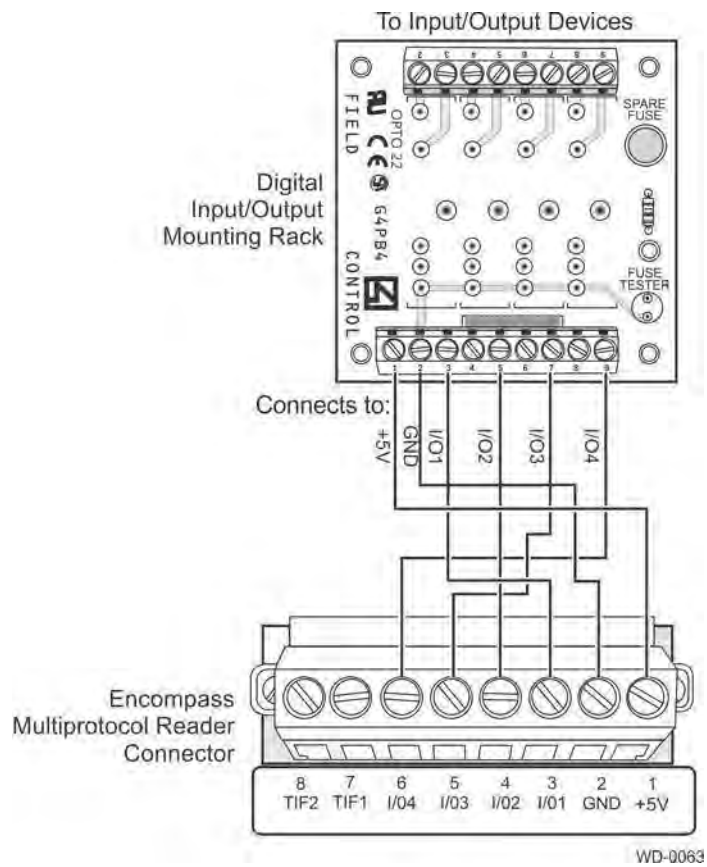

Figure D-13 Digital I/O Mounting Rack-to-Encompass Reader Connector Wiring Diagram
5. Connect mounting rack wires to Encompass reader plug as shown in Figure D-13.